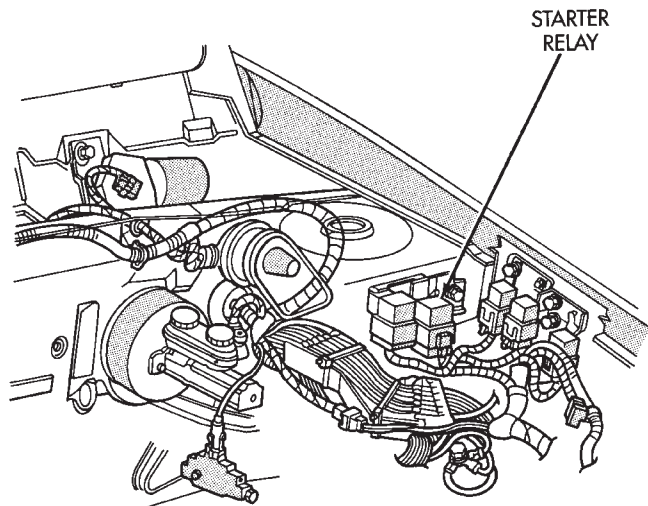

Fig. 14 Starter Relay Location—AA/AP Body
- On AA/AP Bodies the relay is located on the front of the left front strut tower (Fig. 14).
(7) Remove the starter relay from the connector.
(8) Connect a remote starter switch or a jumper wire between the battery positive post and terminal 87 on the starter relay connector. To decide the starter relay terminal numbers, refer to the Starter Relay Tests.